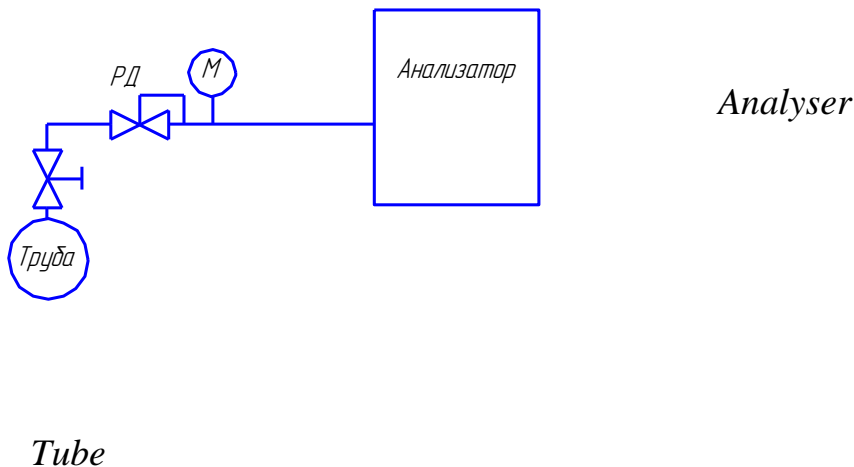

Fig. 7 Connecting the Analyser on Site
2.3.3 The gas lines shall be connected with a stainless steel tube of 1/8" with an inner diameter of 2 mm (Fig. 7).